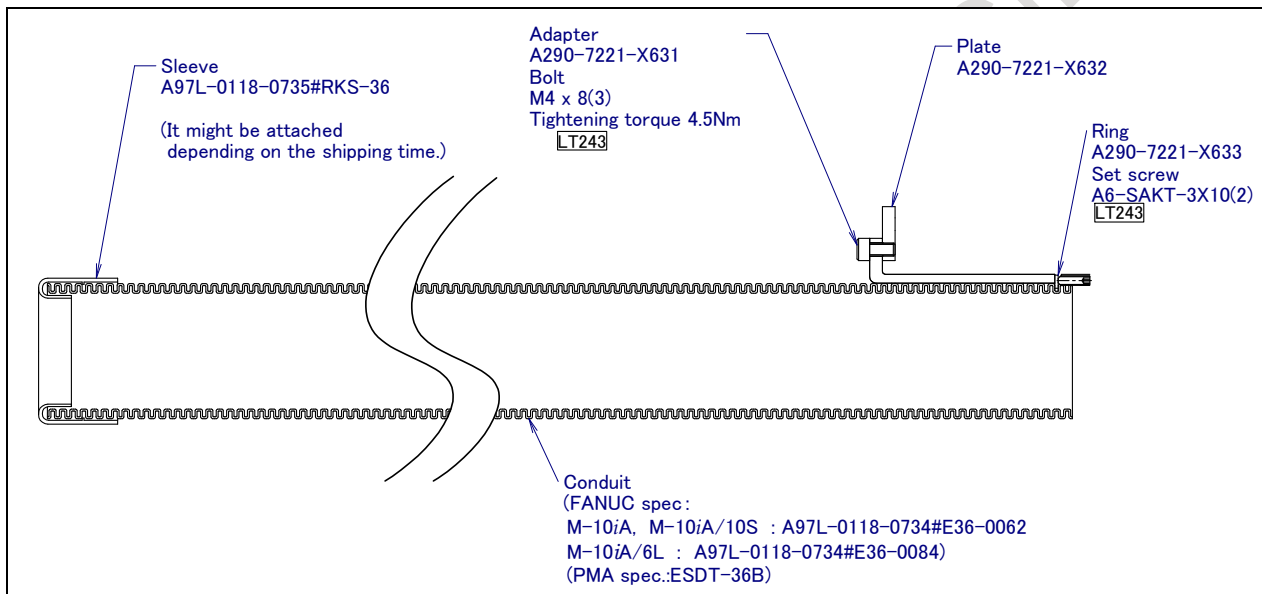

Fig. 6.19 (b) Replacing the M/H conduit (2/2)
- 6 Attach new M/H conduit applying reverse sequence. In this time, according to Fig. 6.19 (a), (b) apply LOCTITE 243 to internal thread and tighten by regulated torque. If you cut conduit, be sure to refer NOTE in Appendix A. Assemble them while paying attention that circumference of adapter does not interfere inside of out shaft of J6 hollow part. (Otherwise abnormal noise occurs.) Confirm there is a clearance between them. Pay attention that the ring does not protrude from circumference of adapter, too.